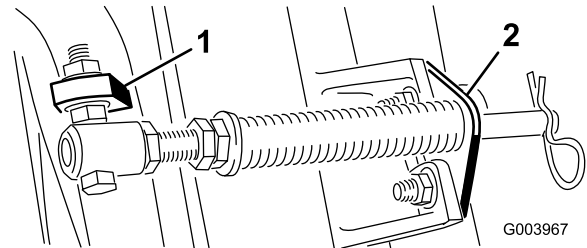
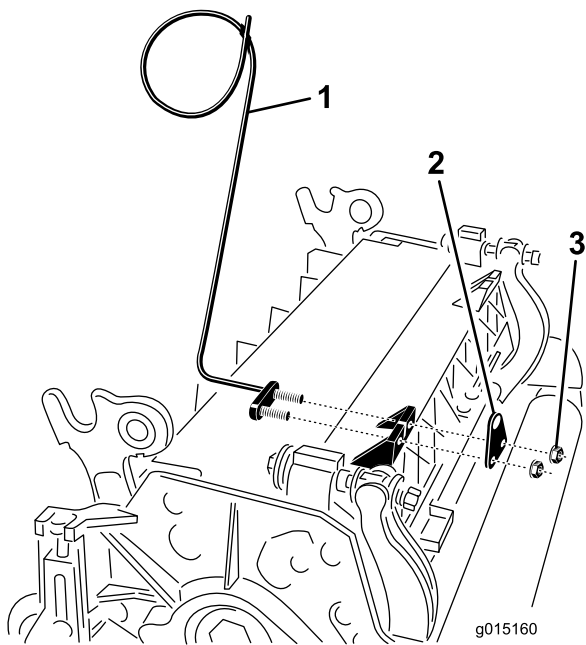

Figure 11
Figure 13
- C. Mount the spring tube bolt to the opposite tab on the carrier frame and secure with the flange nut. The bolt head is to be positioned to the outer side of the tab as shown in Figure 11.
- D. Mount the rod bracket to the cutting unit tabs with the carriage bolts and nuts (Figure 11). Also, on the cutting unit, mount the left hand hose guide to the front of the cutting unit tabs when reinstalling the rod bracket (Figure 13).